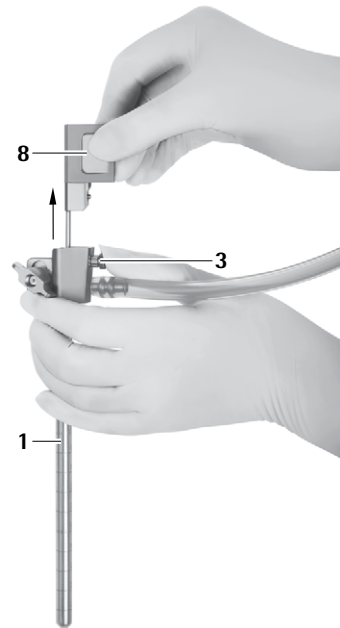

Fig. 10
- Press the release button 3 and carefully remove the obturator for the optical channel 8 from the MINOP InVent trocar 1, see Fig. 10.